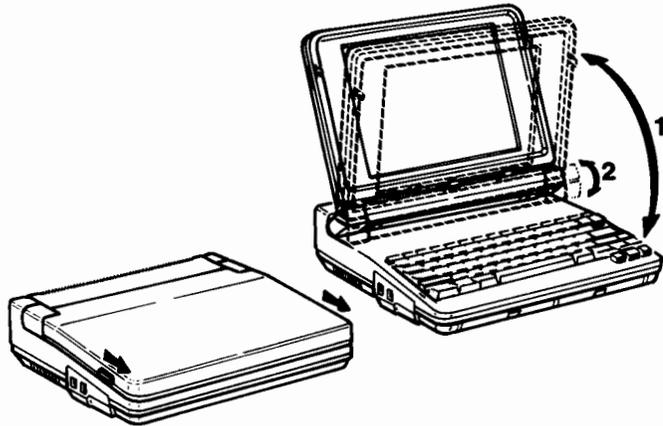

Figure 1-2. Opening the Computer
4. Open your computer by pulling the latch on each side of the computer toward the front as shown in Figure 1-2. Lift the top up from the front. Note that the latches will open only when the computer is laying flat.